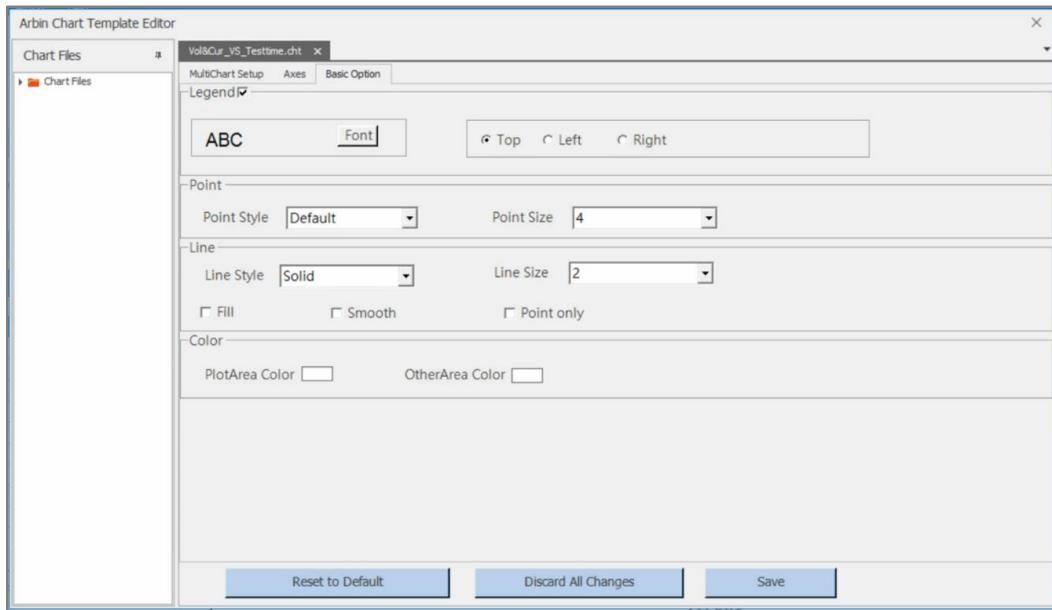

Figure 11-29 Set the Basic Options Display Options
- 2) Configure the Display Options (Figure 11-29).